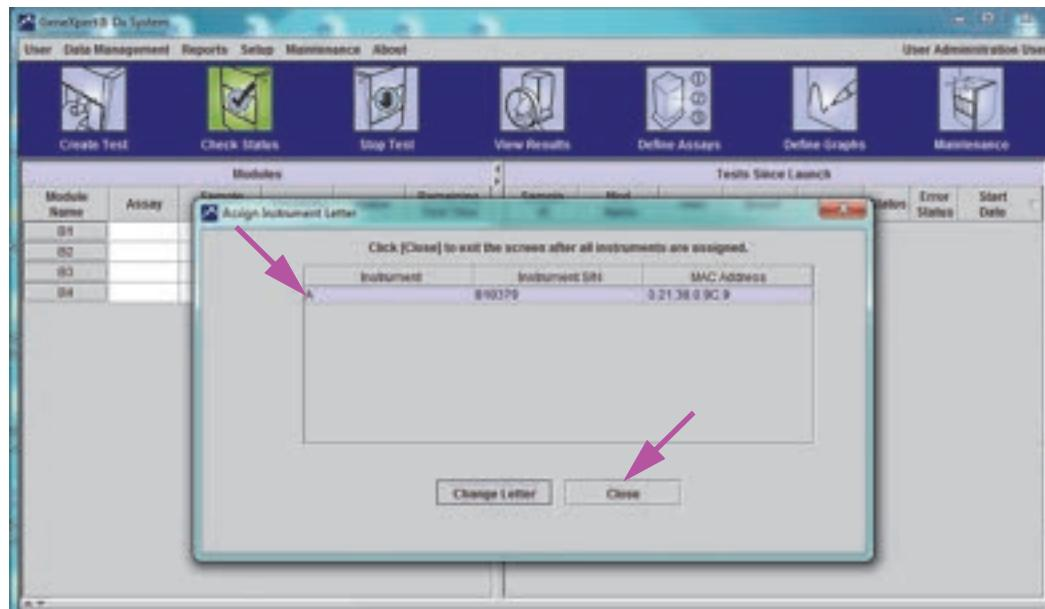

Figure 2-59. GeneXpert Dx System Window with Assign Instrument Letter Dialog Box Overlay
7. Click **Close** to close the Assign Instrument Letter dialog box (see Figure 2-59). The Assign Instrument Letter dialog box will indicate the new instrument letter assignment for the modules.